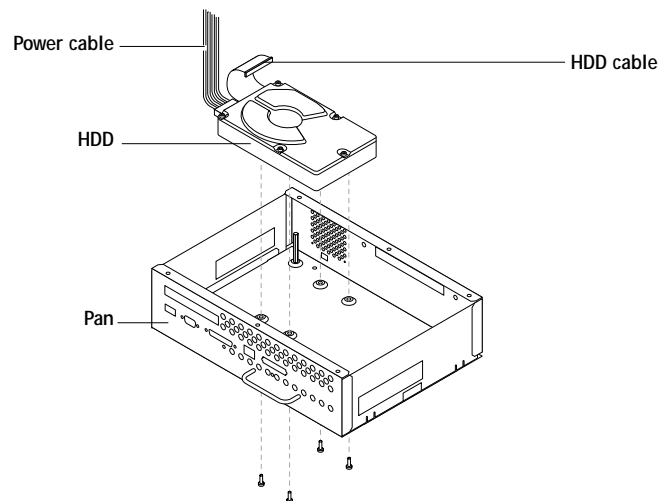

FIGURE 4-14 Replacing the HDD
6. With the pan on its side, remove the four screws on the bottom of the pan that secure the HDD (see Figure 4-14).
3. With the pan on its side, align the four holes in the bottom of the HDD with the holes in the bottom of the pan and replace the four screws you removed earlier (see Figure 4-14 on page 4-19).